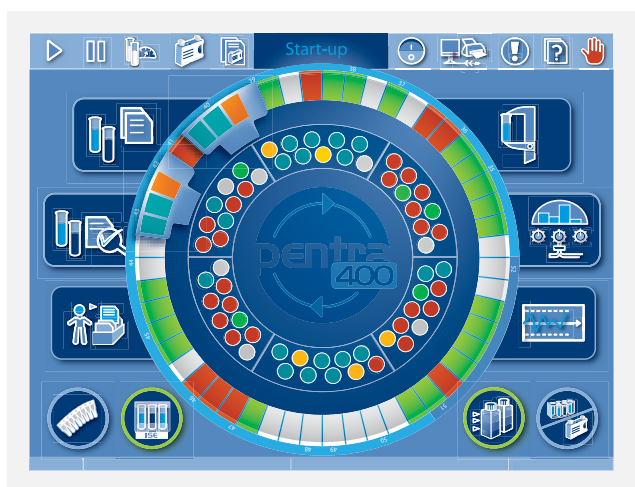

Figure 1 Pentra 400 Main Screen
- The progress of testing is monitored from the main screen (Figure 1). Sample, reagent and analyzer data are updated in real time. Color-coded graphics allow users to make quick decisions without opening the hood of the unit.